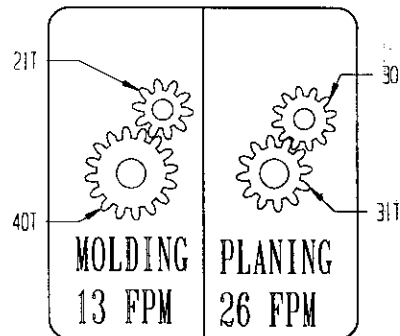

Figure 5 - Gear Chart
Refer to Figures 5 - 16.
Refer to Figures 5 and 15, pages 6 and 16.
- Remove the socket head bolt (Figure 15, Key No. 33) that secures the gearbox cover (Figure 15, Key No. 35), remove the gearbox cover. See Figure 5 for the proper location of the gears.